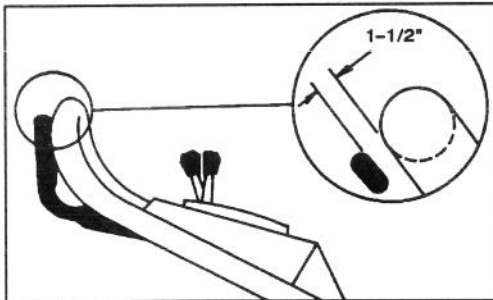

Figure 20
3. CHECK ADJUSTMENT — Slowly pull mower backwards while control bar is gradually moved toward handle. Adjustment is correct when rear wheels stop turning and control bar is about 1 inch from handle (Fig. 20).